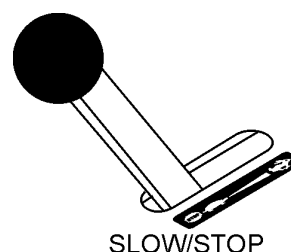

Figure 35. Throttle Lever (Slow Position)
- Place the engine throttle lever (Figure 35) in the slow position, and listen for the engine speed to decrease. Allow engine to run for 2 or 3 minutes for proper cooldown.